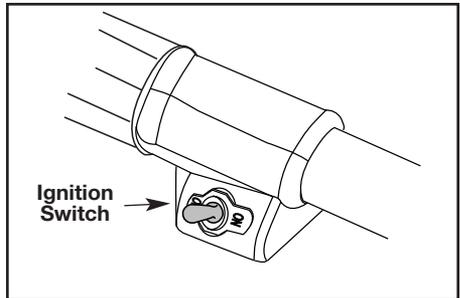

Fig. 5
2. Put the **IGNITION SWITCH IN THE "ON" POSITION** (Fig. 5).
**NOTE:** If the engine floods while attempting to start the unit, place the choke lever in the "RUN" position (B), squeeze the throttle trigger, and pull the starter rope briskly. The engine should start within three (3) to eight (8) pulls.
10. To stop the engine, put the **IGNITION SWITCH IN THE "OFF" POSITION** (Fig. 5).